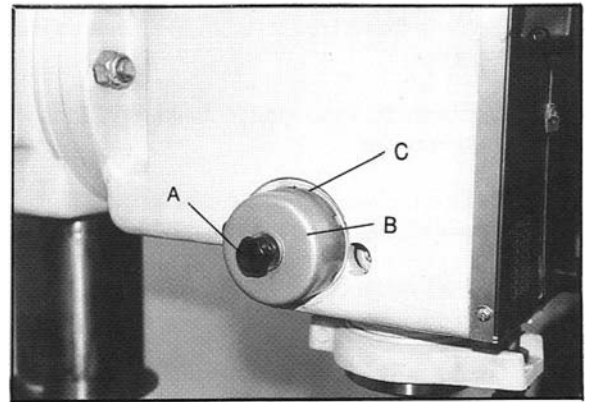

Figure 14
2. Loosen lock knob (A, Figure 14) while holding the quill spring cover. Do not allow the cover to turn in your hand or the spring will unwind.
3. Pull out the cover (B, Figure 14) and rotate until the pin (C, Figure 14) on the return spring plate engages the next notch in the coil spring cover. Turn the cover clockwise to decrease tension and counter-clockwise to increase tension.
4. Tighten the lock knob (A, Figure 14). Do not over-tighten. Nuts should not contact the housing when tight.